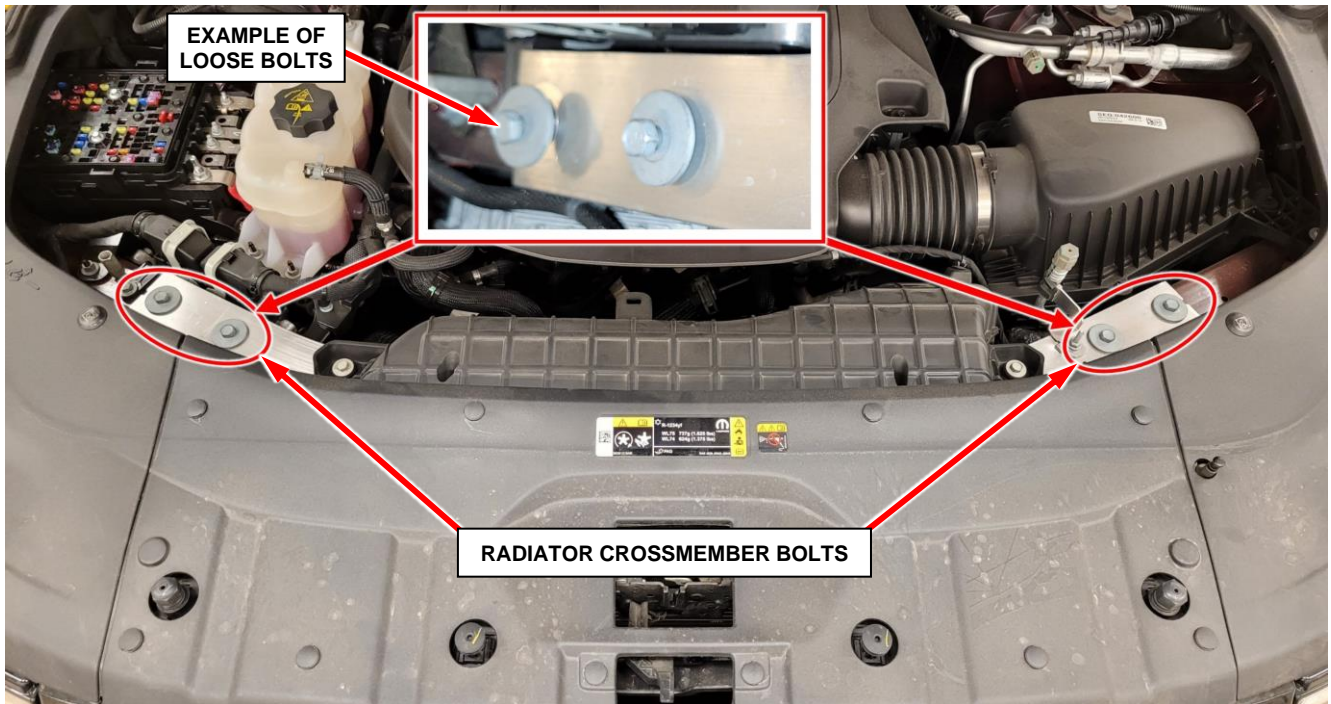

Figure 1 – Radiator Crossmember Bolts
2. Inspect for any missing radiator crossmember bolts and replace any missing bolts (Figure 1).
3. Using a torque wrench, tighten all four radiator crossmember bolts to 15 N·m (11 Ft. Lbs.) (Figure 1).